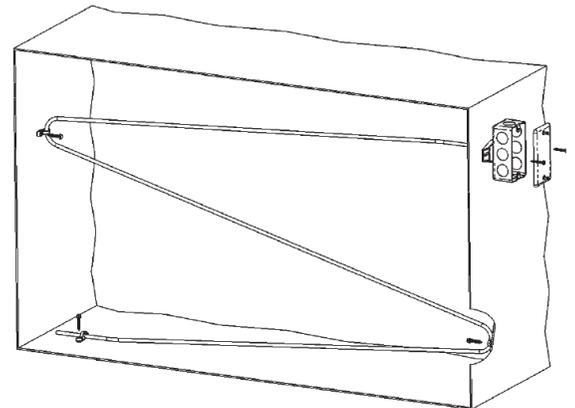

Figure 5: Flexible Sensor Horizontal Mount (Best for Vertical Stratification)
1. Place the sensor in the middle or top of the duct as shown in Figs 5 and 6 and drill the probe and mounting holes as depicted for the enclosure being used.
3. Mount the enclosure to the duct using recommended 5/16" self-tapping, self-drilling sheet metal screws through a minimum of two opposing mounting tabs. A 1/8" pilot screw hole in the duct makes mounting easier through the mounting tabs. Use the enclosure tabs to mark the pilot hole locations. Weatherproof (WP) enclosures require assembly of the mounting tabs on opposite corners.